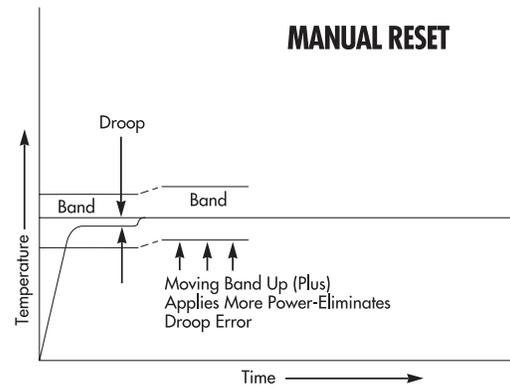

Figure 5.
- a) Manual Reset. Figure 5. Allows positioning the band with respect to the setpoint so that more or less power is applied at setpoint to eliminate the offset error inherent in proportional control.